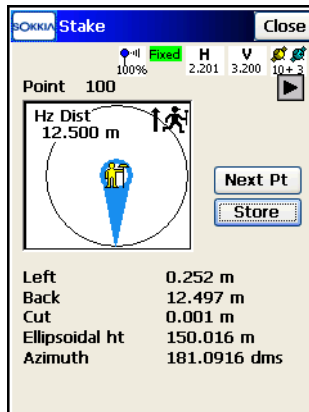

Figure 9-5. GPS Stakeout
7. For GPS+: use the information on the *Stakeout* screen for finding the target point (Figure 9-5). Tap **Store** after the location is close enough to the design point. Tap the **Next Pt** button to change the design point (increment to the next point in the data set) of the stakeout.